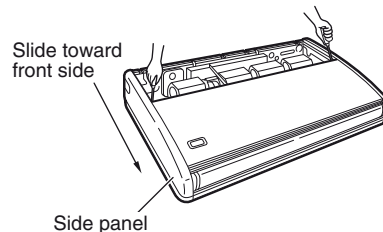

**Fig. 3-8**
- (4) Screw in the suspension bolts, allowing them to protrude from the ceiling (Figs. 3-6 and 3-7). The distance of each exposed bolt must be of equal length within 50 mm. (Fig. 3-8)